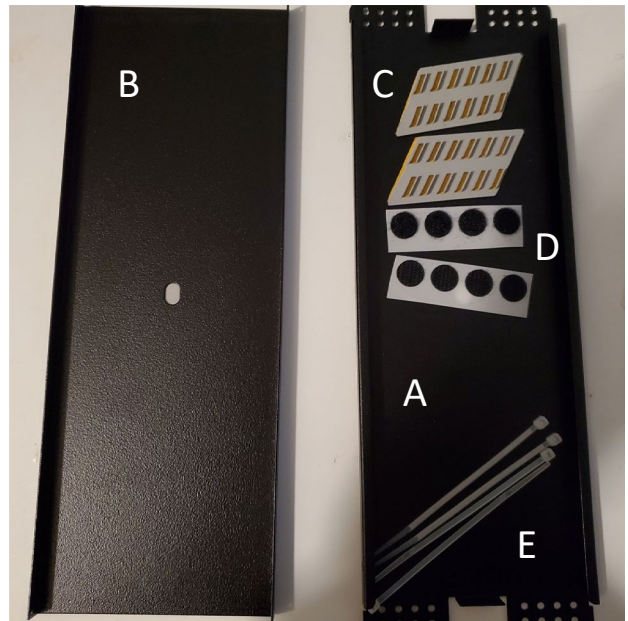

Figure 1
5.7 Install each splice into the splice holder and route excess fiber within the tray. See **Figure 1** for recommended fiber routing.